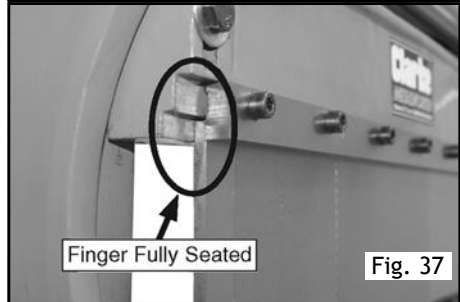

Fig. 37
8. Make sure the fingers are slightly loose between the gib and the casting, then use the hand crank to raise the receiver to fully seat the fingers up against the casting behind the gib, as shown in Figure 37.